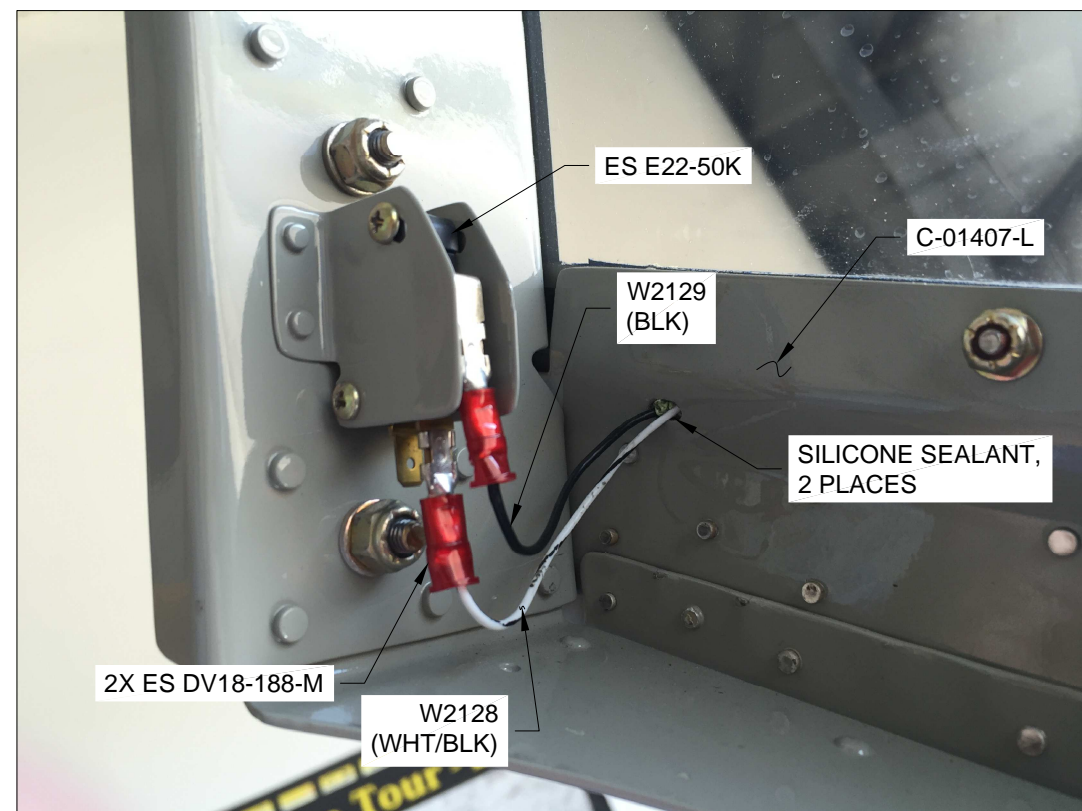

FIGURE 1: CONNECTING TO SWITCH
Step 4: Apply a small amount of clear silicone sealant to the wire routing holes in the canopy frame at each end of the wire run to prevent wire movement/chaffing. See Figure 1.